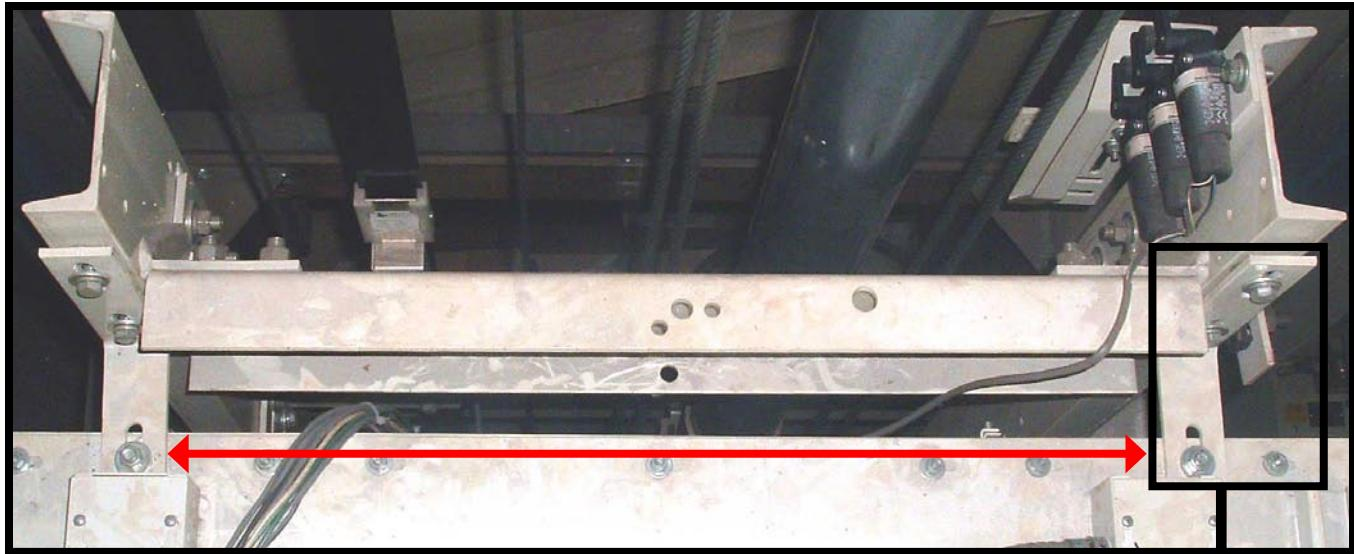

Figure 75 Cab Stabilizer Brackets
- 6) Install the two (2) cab stabilizer brackets (from the top of the cab to the sling) using $\frac{3}{8}$ " hardware. Do not tighten. Refer to Figure 75. If required, trim each bracket on the cab ceiling side.